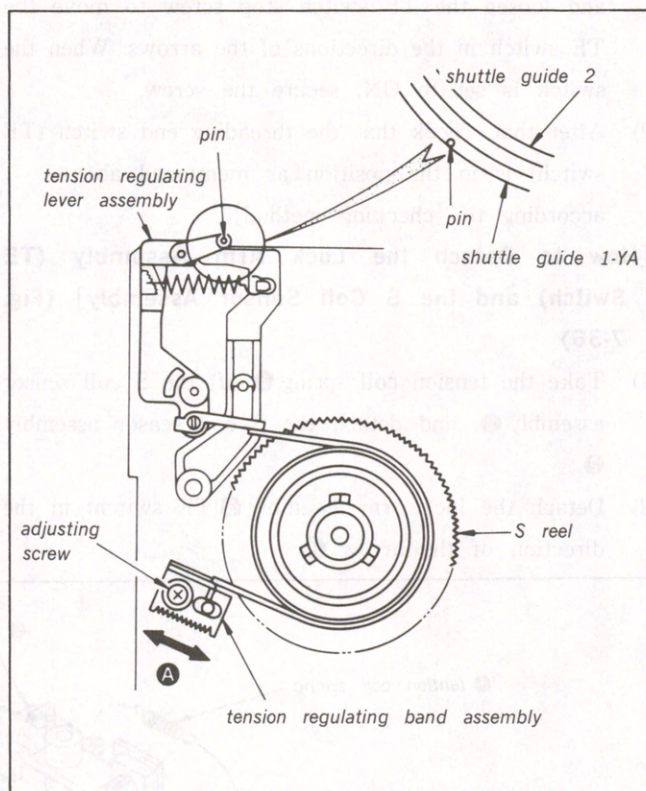

Fig. 7-39. Adjusting the position of the tension regulating lever.
7-3-26. Adjusting the Position of the Tension Regulating Lever (Fig. 7-39)
- 2) Loosen the adjusting screw so that the tape guide pin of the tension regulating lever assembly comes inside of the outer circumference of the shuttle guide 1-YA, as shown in Fig. 7-39. And adjust the position of the tension regulating lever by moving the assembly in the directions of the arrows A.